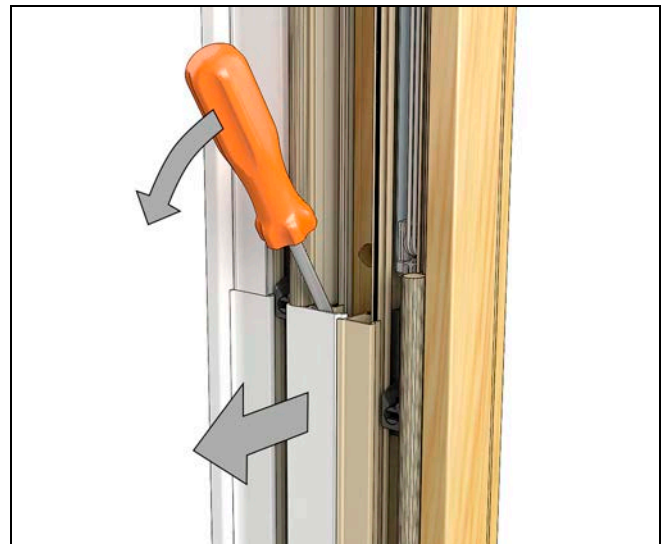

Figure 36
5. Using a screwdriver, pry behind aluminum/vinyl mid-cover assembly to release it from frame. See Figure 36.